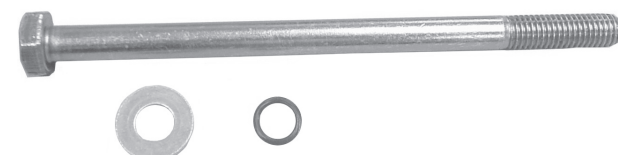

Figure 3. Capscrew, washer and o-ring.
**NOTE:** Refer to step 19 in the IN03-01 Installation & Owner's Manual, to locate the long hex-head capscrew, washer and o-ring (See Figure 3). Once they have been located, continue to step 4 of this supplement.